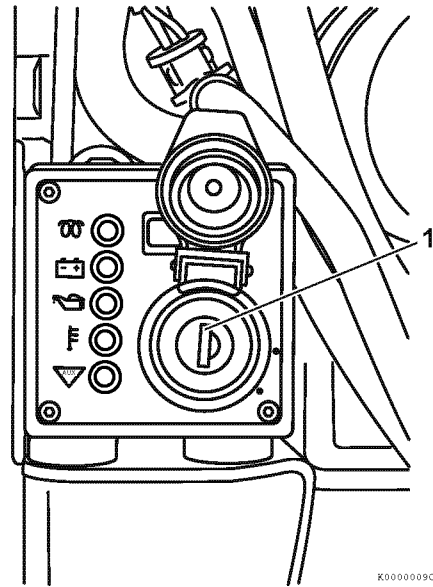
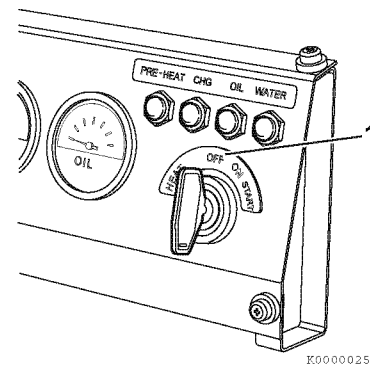

Figure 6
Figure 7
4. Turn the key to the OFF position (1, Figure 6) or (1, Figure 7) and remove it from the key switch.